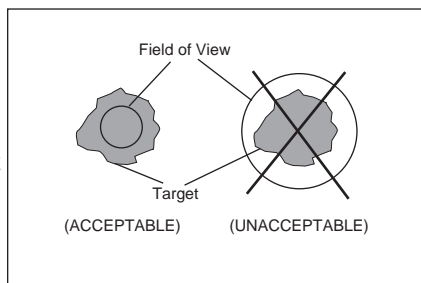

Figure 1 - Field of View Positions
4. The field of view of the multi-meter should fall within the area of the target being measured (Fig. 1). Refer to the field of view vs. distance chart (Fig. 3).